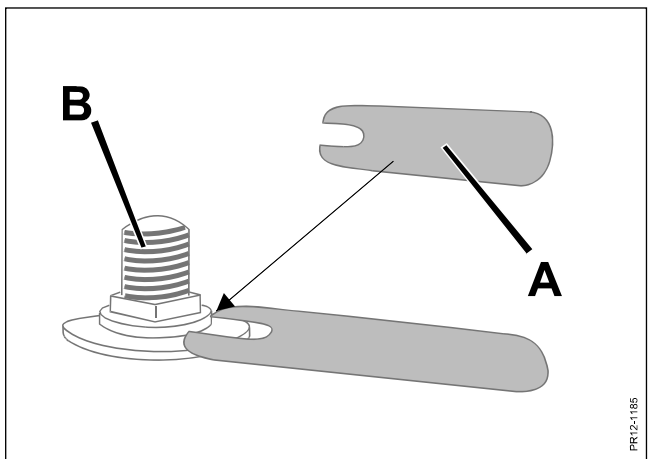

Fig. 5-8
- c) the diameter is less than 15 mm (see also below at fig. 5-8).
- Fig. 5-8 In connection with replacement of blades check all blade bolts **B** on the discs regularly with the gauge **A** (in the spare parts package).